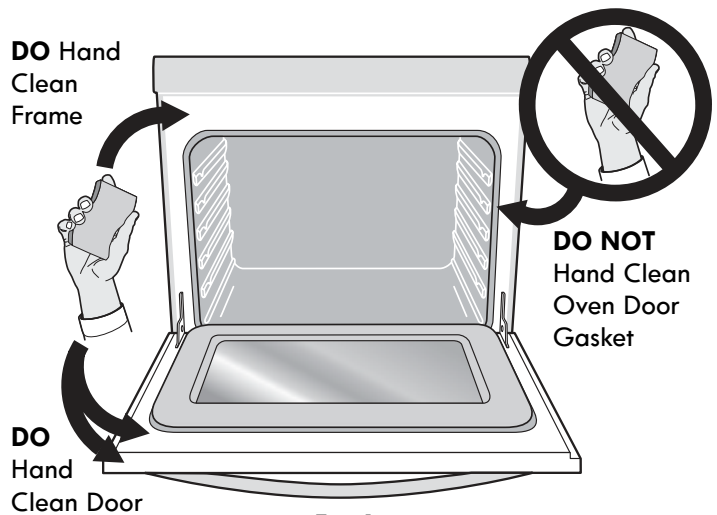

Fig. 1
- **Do not** clean the oven door gasket. The woven material of the oven door gasket is essential for a good seal. Care should be taken not to rub, damage or remove the gasket. -Fig. 1-